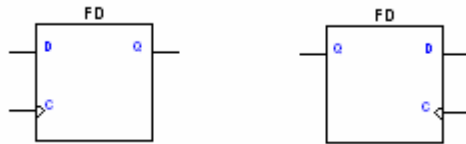
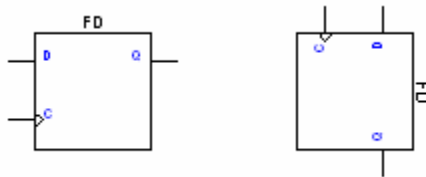

Figure 25
Figure 26
26. Change the orientation of a symbol. Use Ctl-M to mirror, (Figure 25) Ctl-L to rotate. (Figure 26)